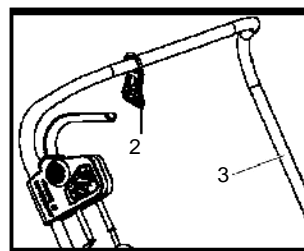

Fig. 3
c). Slide the cord strain relief (2) onto the upper handle bar (3). (See Fig. 3).